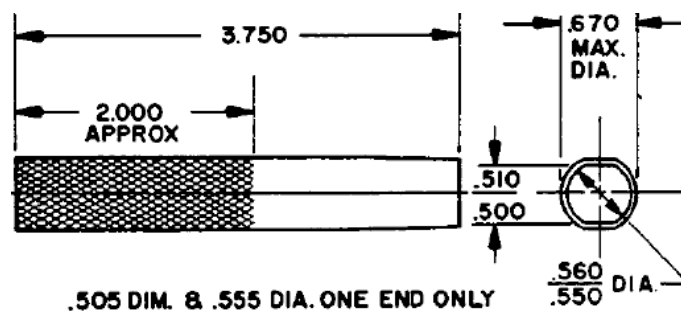

Figure 5-53. Spring Seat Tool
- Hold pilot-valve plunger down against snap ring and use Woodward tool 360692 or equivalent (Figure 5-53.) to thread spring seat onto plunger stem. Turn spring seat down until it touches overriding piston; then back off 1/4 turn. (Plunger will begin to rise if spring is turned down further on thread after touching piston.)